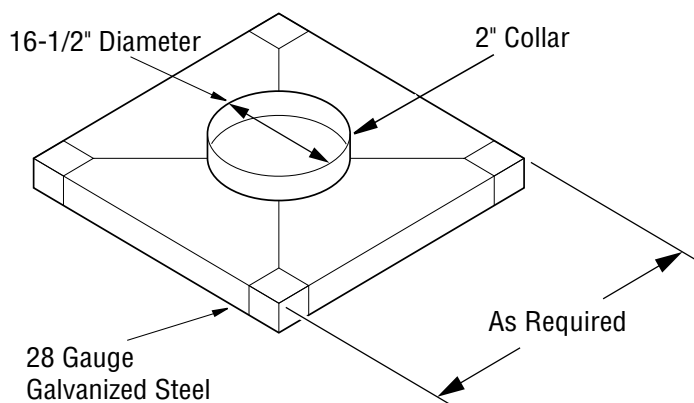

Figure 26 - Constructing Chase Top Flashing
3. Fabricate a flashing having a 16-1/2" diameter hole centered over chimney end with a 2" collar around hole (see **Figure 26, Page 15**).